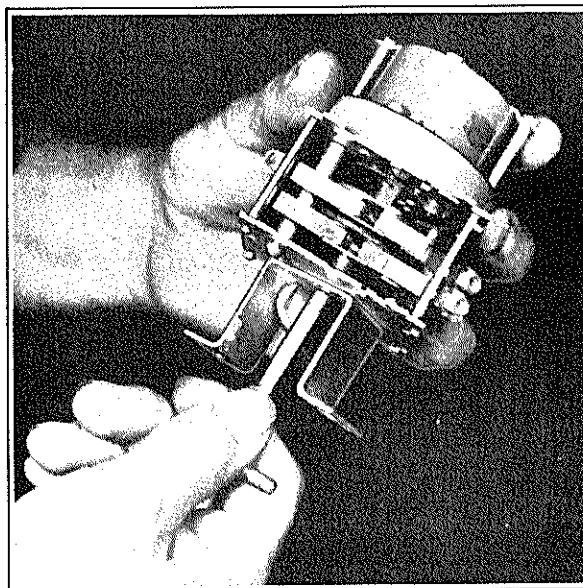

Figure 54
*Turn timer clock clockwise to the position where a finger has just lifted and with the finger in a lifted position, take up the backlash by turning timer shaft in a counter-clockwise direction as far as it will go without forcing it. A knob used on the timer shaft will assist in getting the proper setting. Hold it there while, with the other hand you rotate the escapement and motor counter-clockwise until cam follower is setting exactly on top of riser in cam. (See Figs. 54 and 55.) Release timer shaft without allowing escapement to move from position just established and tighten screws. To check setting, turn shaft until any finger has just lifted and take-up backlash by turning shaft in a counter-clockwise